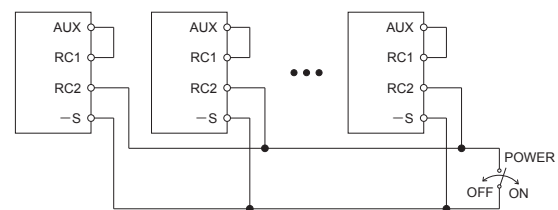

Fig.4.3 Examples of connecting remote ON/OFF circuit during parallel operation
■ Examples of connecting remote ON/OFF circuit during parallel operation is shown in Fig.4.3.